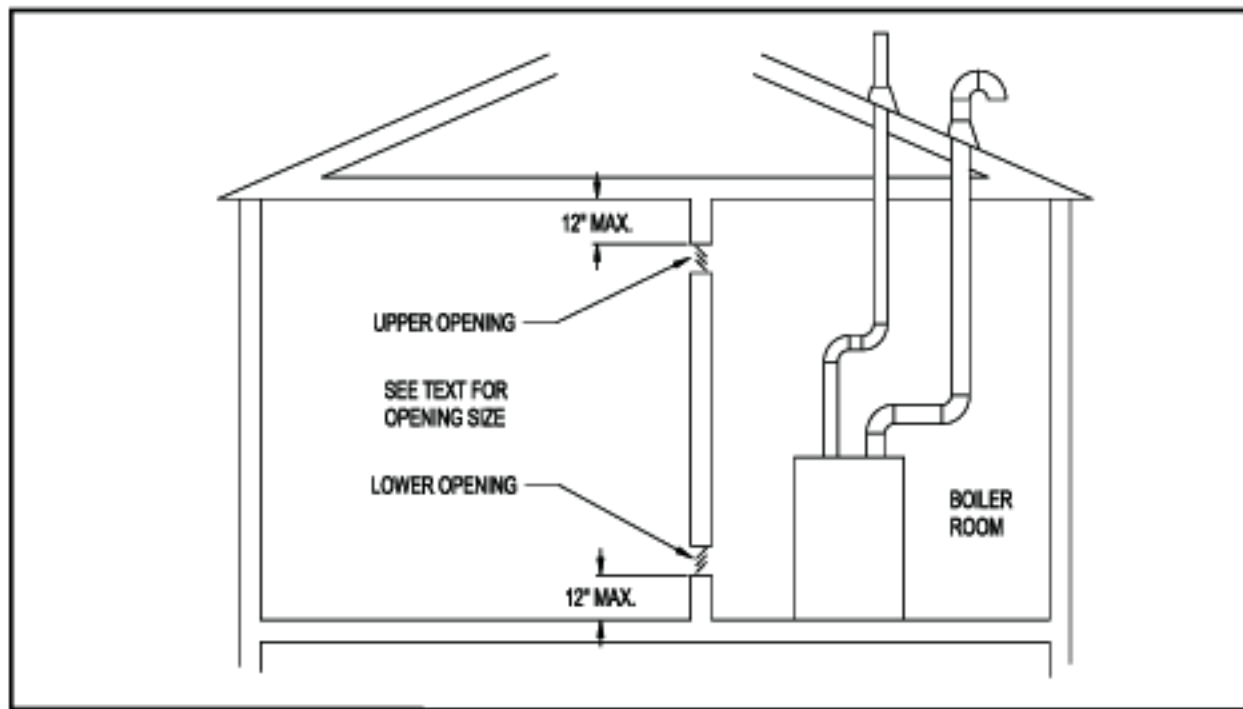

Figure 5.1: Boiler Installed In A Confined Space, Ventilation Air From Inside
Step 2a: If the boiler is to be placed in a confined space, provide two openings into the boiler room, one near the floor and one near the ceiling. The top edge of the upper opening must be within 12" of the ceiling and the bottom edge of the lower opening must be within 12" of the floor (Fig 5.1). The minimum opening dimension is 3 inches.